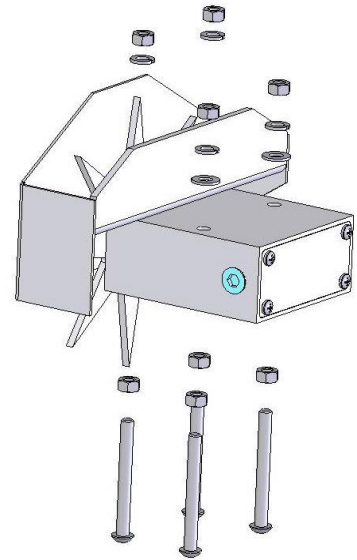

Figure 6
3. Install the eight (four per side) 5/16" X 3" Allen head cap screws. Make sure the Allen heads are in the bale chamber. Secure using 5/16" hex nuts (Figure 6).
6. Secure the star wheels and twine diverters with four M8 hex nuts, lock washers, and two flat washers (Figure 6).